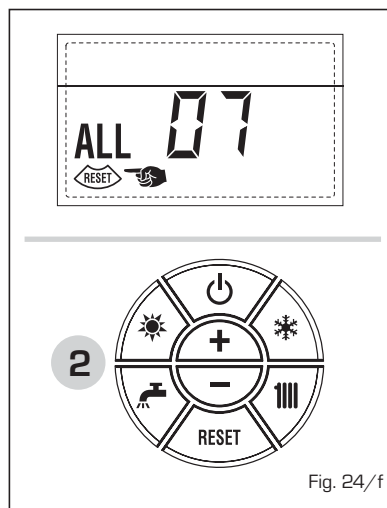

Fig. 24/f
**- ANOMALÍA LLAMA PARÁSITA "ALL 08" (fig. 24/g)**